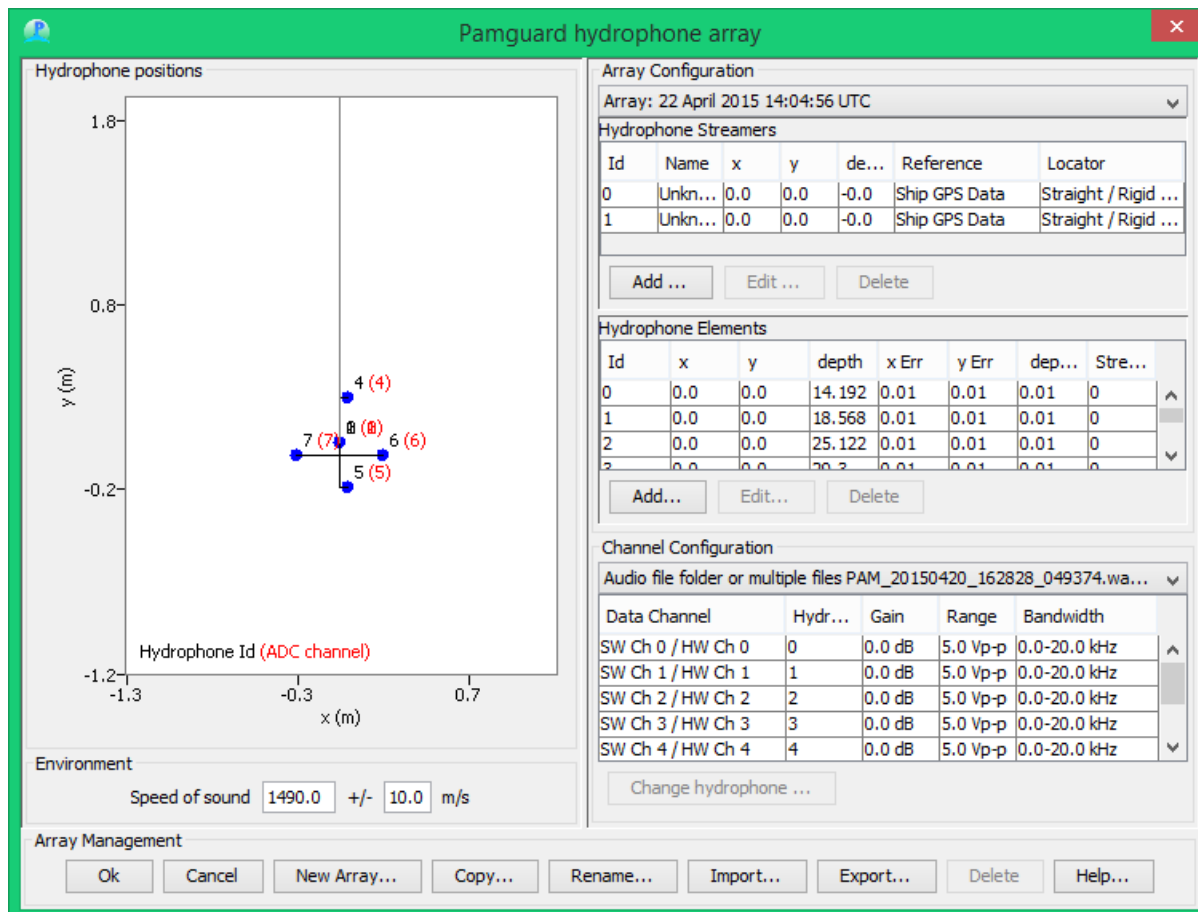

Figure 27 The PAMGuard array manager can be used to input hydrophone positions.
- 1) **Completely ignore it.** If movement is deemed insignificant then hydrophone positions can be simply input into the PAMGUARD array manager as shown in Figure 27. It is assumed that the main axis of the array, x is 0 and y is 0 and z is the depth of each hydrophone. (The PAMGUARD convention is y points north, x points east and depth points downwards *i.e.* 10 m underwater is depth = 10.) Note that, although very easy, this also will not rotate the tetrahedral array in the correct direction. Therefore co-ordinates will not be properly geo referenced, although localised dive depths and ranges to animals will be correct assuming the array has remained near vertical.